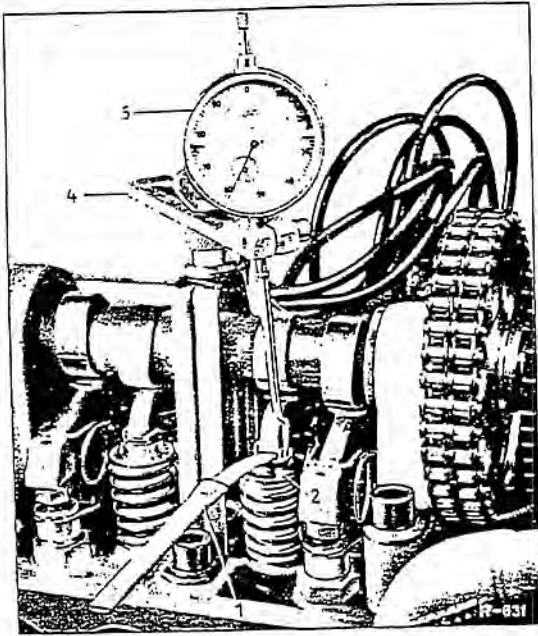

Fig. 00-9/2
8. Attach the dial micrometer to the cylinder head in such a way that the feeler rests against the valve spring retainer of the 1st cylinder inlet valve with a pre-tension of at least 2 mm (Fig. 00-9/2). Set the micrometer to 0. It is advisable to start measurements on the inlet valve (Fig. 00-9/1).
- Now turn crankshaft in the direction of engine rotation until the dial micrometer registers 0.4 mm less, i. e. indicates the number 60 (Fig. 00-9/2). Now read off the initial tension of the dial micrometer from the pointer for full millimeters and on the graduated disk read off the moment the valve begins to open. (For valve timings see Job No. 00-0).